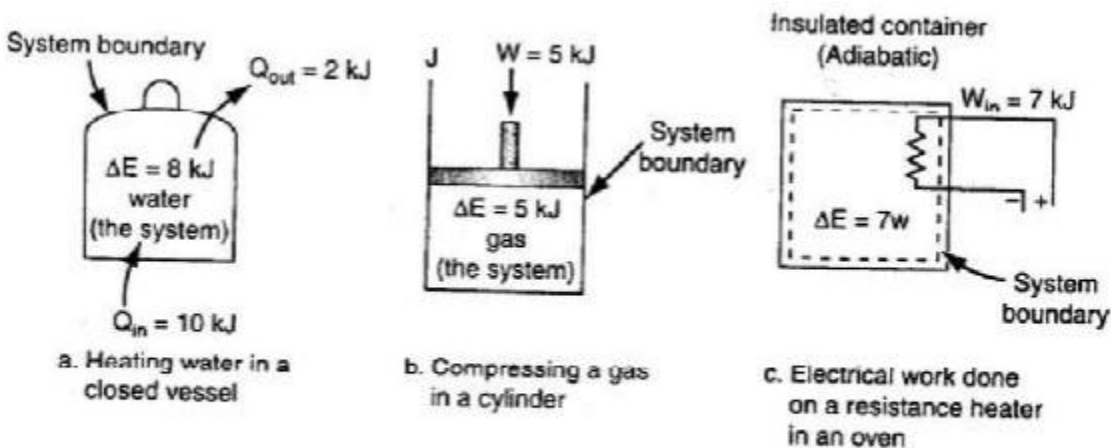
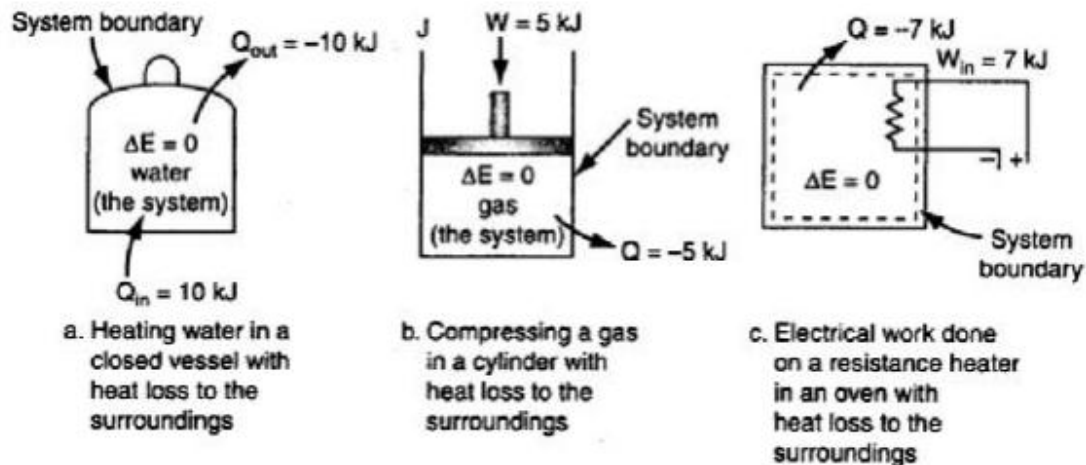

Figure 2 Examples of closed, unsteady-state systems that involve energy changes.
Figure 3 Examples of closed, steady-state systems that involve energy changes.
Figure 2 illustrates three examples of applying Equation (2) to closed, unsteady-state systems. In Figure 2a, 10 kJ of heat is transferred through the fixed boundary (bottom) of a vessel with 2 kJ being transferred out at the top during the same time period. Thus, ΔU increases by 8 kJ. In Figure 2b, a piston does 5 kJ of work on a gas whose internal energy increases by 5 kJ. In Figure 2c, the voltage difference between the system and surroundings forces a current into a system in which no heat transfer occurs because of the insulation on the system.
Figure 3 illustrates some examples of closed, steady-state systems with energy interchange. Contrast them with the figures in Figure 2.
In the processes shown in Figure 3 you can calculate Q and W as follows: